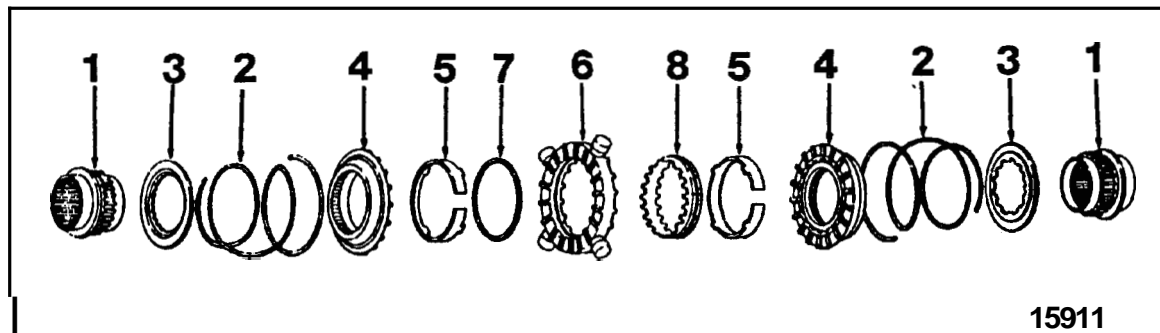

Figure 110
21. Remove threaded rod and No-Spin parts (1 thru 8, Figure 110) in order shown from between case halves